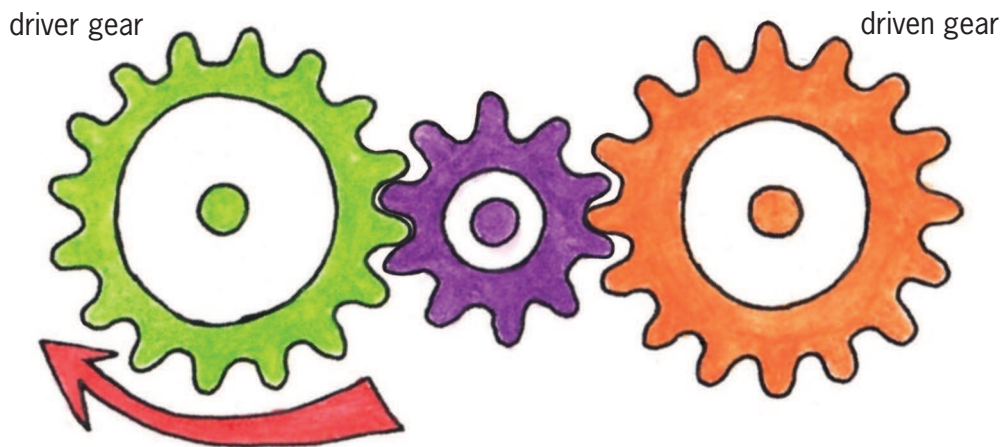

Figure 21
1. Look at the system of gears in Figure 21. If the gear on the left is the driver gear, will the driven gear turn faster or slower than the driver, or will it turn at the same speed?
When an idler gear is smaller than the other gears, as for example in Figure 21, then it is made of harder material than the other gears. This is because the idler gear will rotate more times than the other gears. Every time a gear turns the metal rubs against the metal of the other gears, and a little bit of the metal rubs away. Have a look at the soles of your shoes. The same thing happens to them.